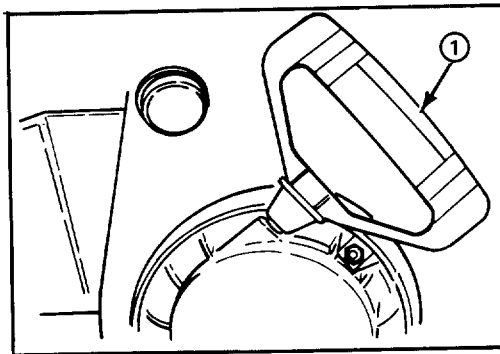

Figure 12
Recoil Starter (Fig. 12) — Recoil starter is on back side of engine. Pull recoil starter to start engine.
6. Grasp recoil starter handle (Fig. 12) and pull it out slowly until positive engagement results; then pull vigorously to start the engine. Keep firm grip on starter handle and return the rope slowly.